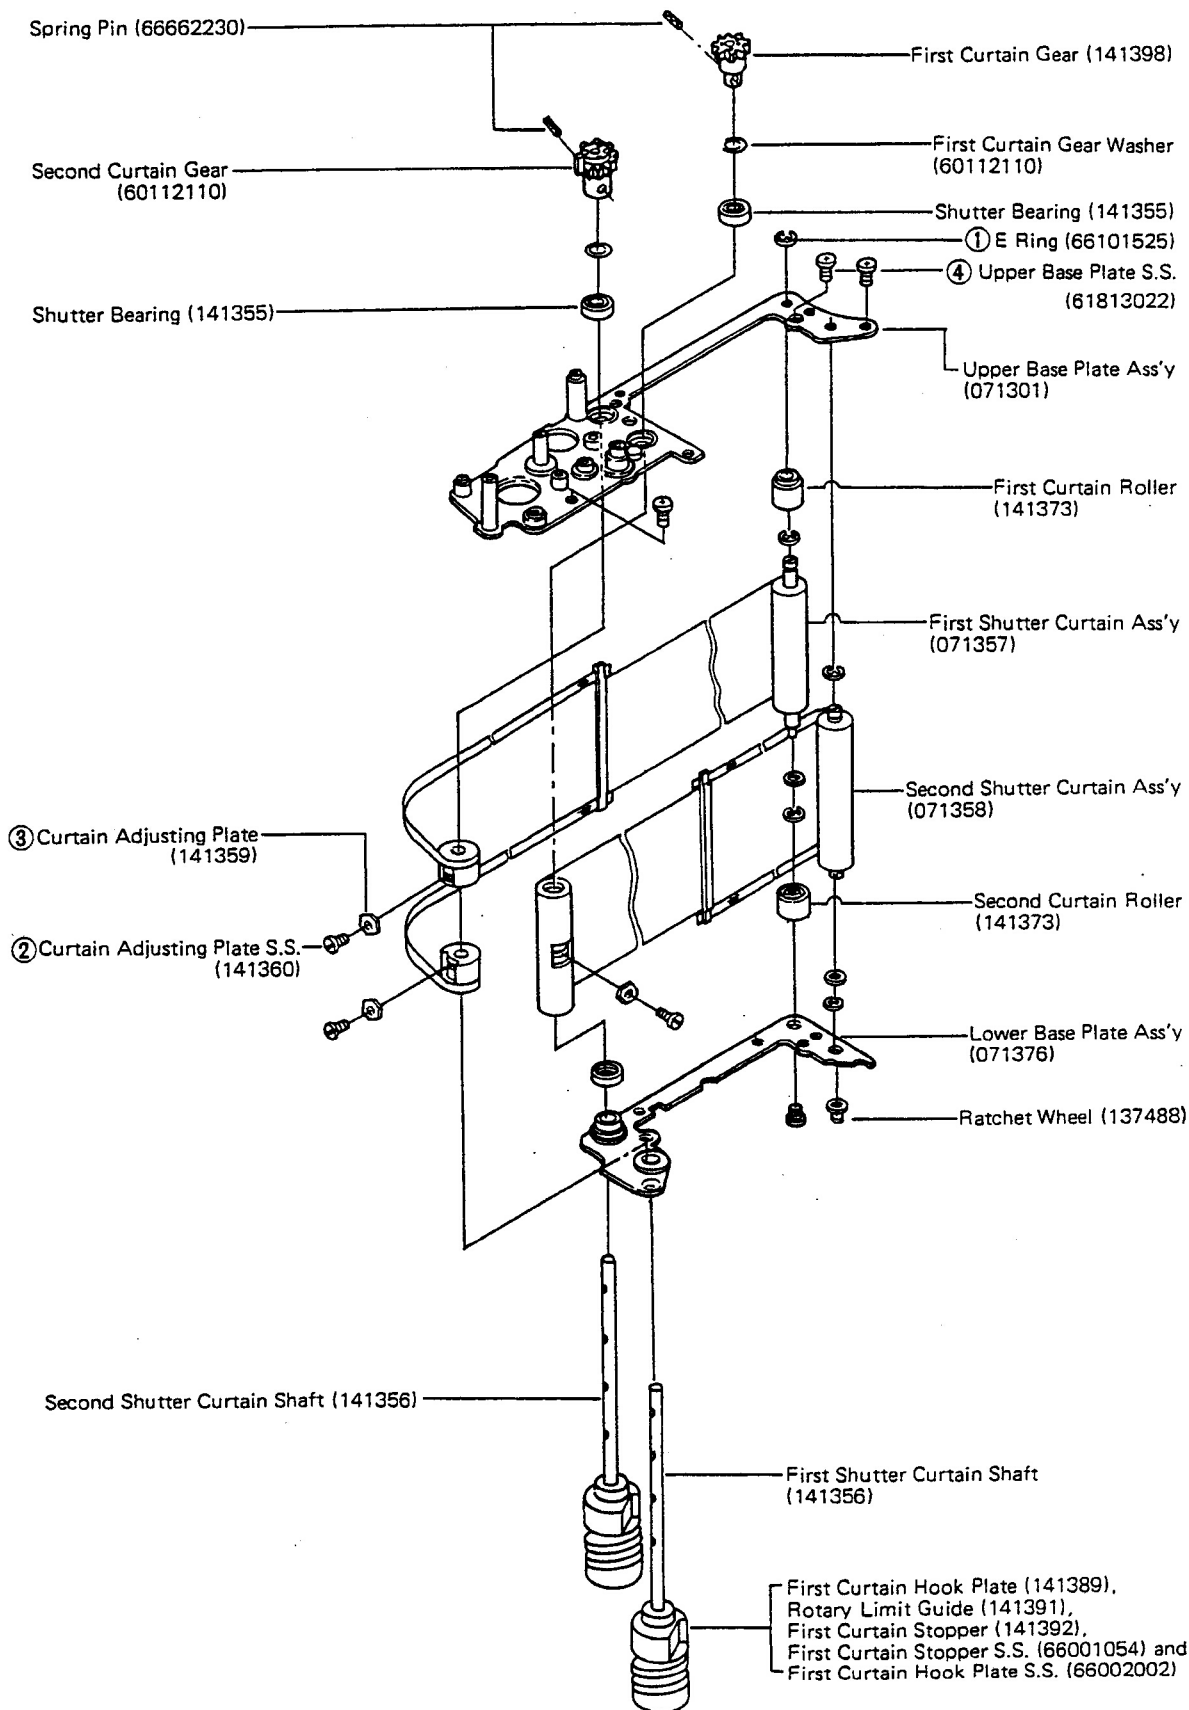
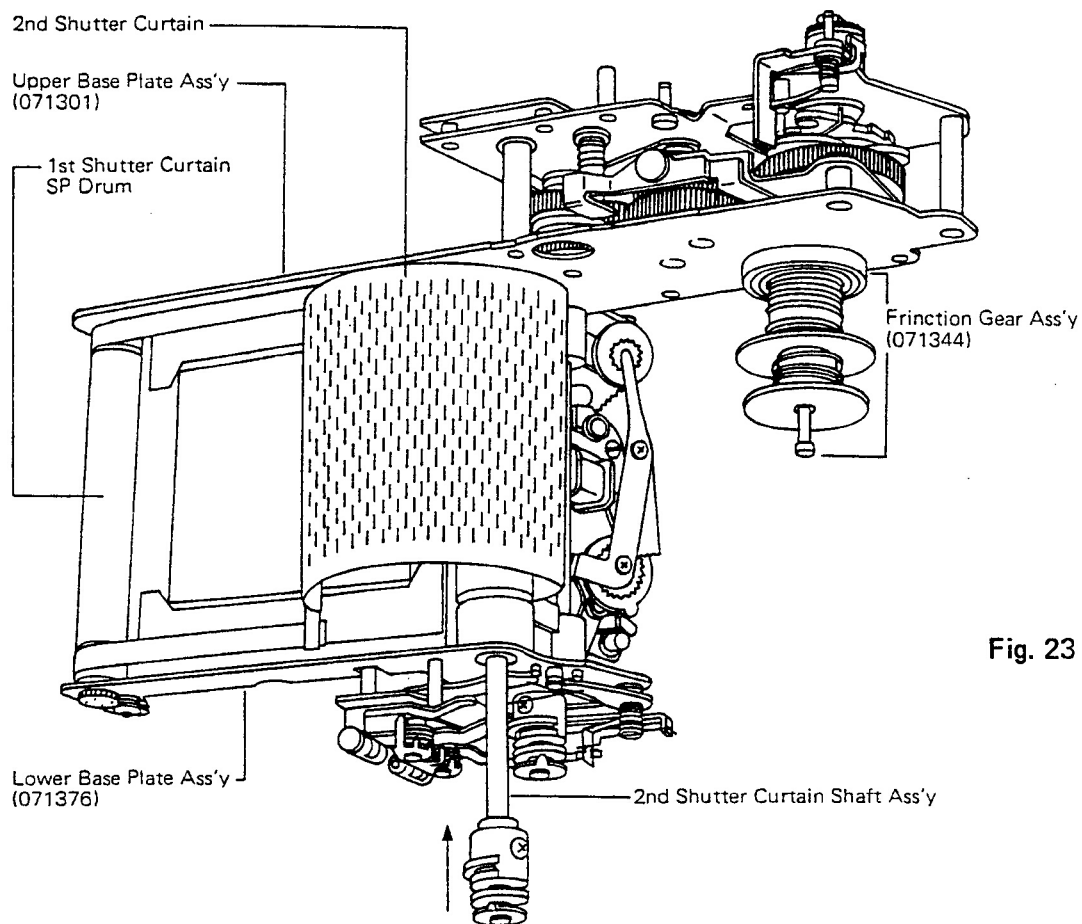

Fig. 22
Fig. 23
- (1) Disassembling of 1st & 2nd shutter curtain ass'y from the Shutter Mech. Ass'y (This operation can be performed after completion of "1. DISASSEMBLING OF THE EXTERIOR PARTS" on page 2. "2. DISASSEMBLING OF THE MOUNT BASE ASS'Y" on page 4 and "4. DISASSEMBLING OF SHUTTER MECH. ASS'Y FROM THE CAMERA BODY" on page 9.)
- a) Remove the Spring Pin (66662230x2) from the First Curtain Gear (141398) and Second Curtain Gear (141399). (fig. 22)
- c) Remove the respective parts ①~③ shown in (fig. 22) in numerical order. (To remove ② and ③ from the 2nd shutter curtain shaft (141356) rotate the Rotary Limit Guide (141391) about 90° counterclockwise.)
- d) Remove ④ Upper Base Plate S.S. (61813022x1). (fig. 22)
(2) Reassembling of the 2nd Shutter Curtain Ass'y to the Shutter Mech. Ass'y.
- a) Fix the 2nd Shutter Curtain SP Drum between Upper Base Plate Ass'y (071301) and Lower Base Plate Ass'y (071376) properly. (fig. 22) or (fig. 23)
(At this stage, the Second Curtain Gear should not be fixed to the 2nd Shutter Curtain Shaft with the Spring Pin yet.) (fig. 23)
- f) Place and hold the 2nd shutter curtain as shown in (fig. 26) and fix the 2nd Shutter Curtain Drum to the 2nd Shutter Curtain Shaft with a Curtain Adjusting Plate (141359) and Curtain Adjusting Plate S.S. (141360) (fig. 22) or (fig. 23)
- g) Fix the Ratchet Wheel and turn it 2 turns. (fig. 22)
(4) Adjustment of shutter curtain position.
- a) Cock the shutter by turning the Friction Gear Ass'y (071344) clockwise. (fig. 23)
- The 2nd shutter curtain position adjustment can be performed by changing the direction of Curtain Adjusting Plate (141359). (fig. 22)
- The 1st Shutter Curtain position adjustment can be performed by changing the direction of 2 x Curtain Adjusting Plates (2x141359). (fig. 22)